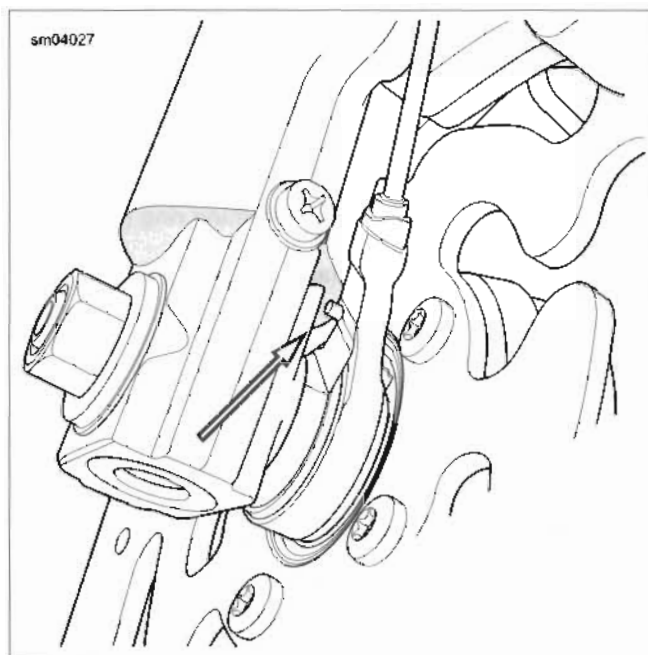

Figure 2-7. Front Wheel Speed Sensor Index Pin (ABS Equipped)
- ABS models:** see Figure 2-7. Rotate front wheel speed sensor counterclockwise until index pin makes contact with shoulder on left fork slider.